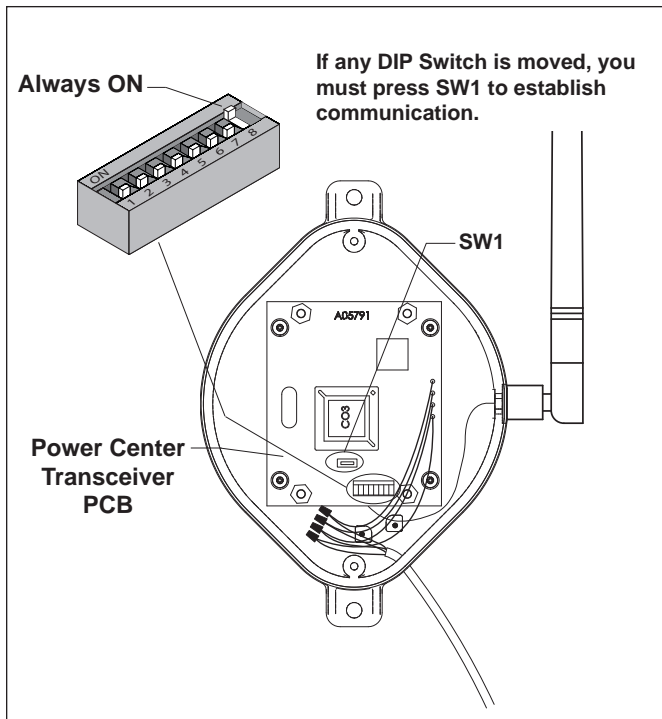

Figure 33. DIP Switch Settings at Power Center J-Box
3. At the Outdoor Transceiver J-box, remove the cover to expose the Transceiver PCB (see Figure 33). Set the DIP switches (except #8) to the same settings as the Control Panel Transceiver PCB that is in the house. **Important**- Before installing the J-box cover, press the reset button (SW1). Close the cover and test the system.